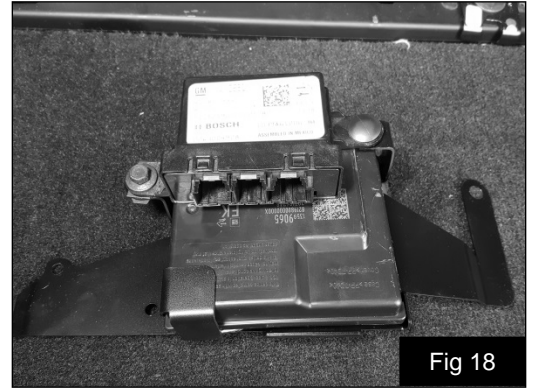

Fig 18
26. Using the supplied bolt and plastic fastener, install the smaller module over the top of the larger module as shown in Fig 18